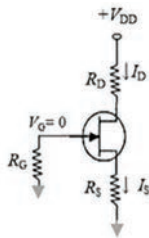

Figure 7.35 Ch 7: No. 10, self-test
10. Determine the values of V_{GS} and V_{DS} for the circuit shown in Figure 7.35, if R_D is 3 k Ω , R_S is 400 Ω , V_{DD} is 10 V, and I_D is 2 mA.